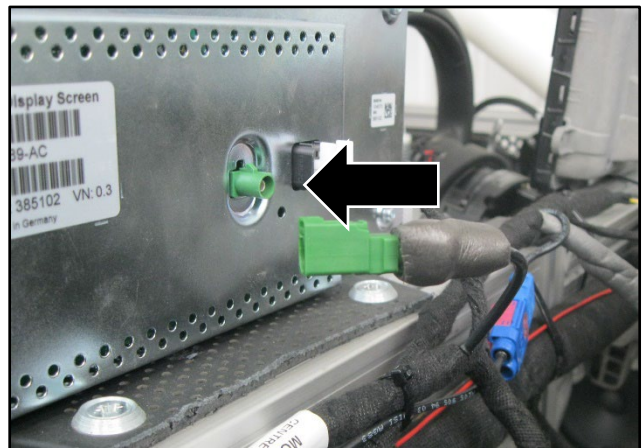

Figure 9
12. Connect the electrical connector for the display screen (refer to Figure 9).